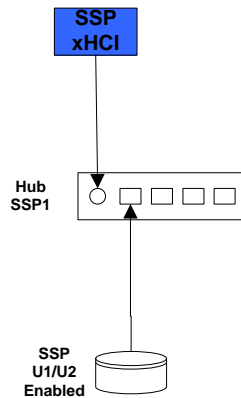

Figure 5-8: Hub and U1/U2 Enabled Device
- Without detaching hub from the host, attach a SuperSpeedPlus, U1/U2 enabled device as shown in Figure 5-8.
- Attach the configuration shown in Figure 5-8 to the host.